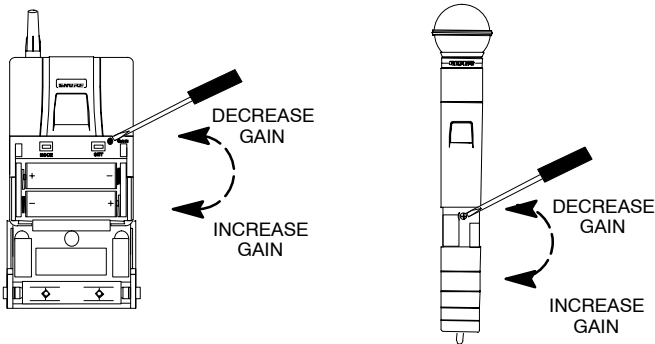

FIGURE 47
ADJUSTING TRANSMITTER AUDIO GAIN LEVEL (FIGURE 47)
NOTE: The factory-preset (-6 dB) should match most applications. Before changing the audio input level, try adjusting the transmitter gain (see Figure 47).
3. Readjust the *Gain* pot so the red "Audio" LED on the U4 receiver flickers only occasionally at the strongest peaks during a performance (see Figure 47).